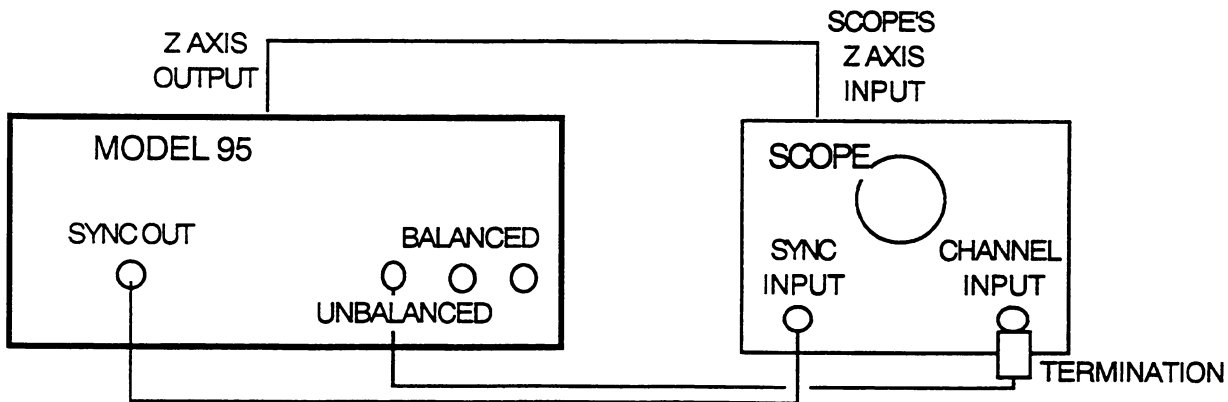
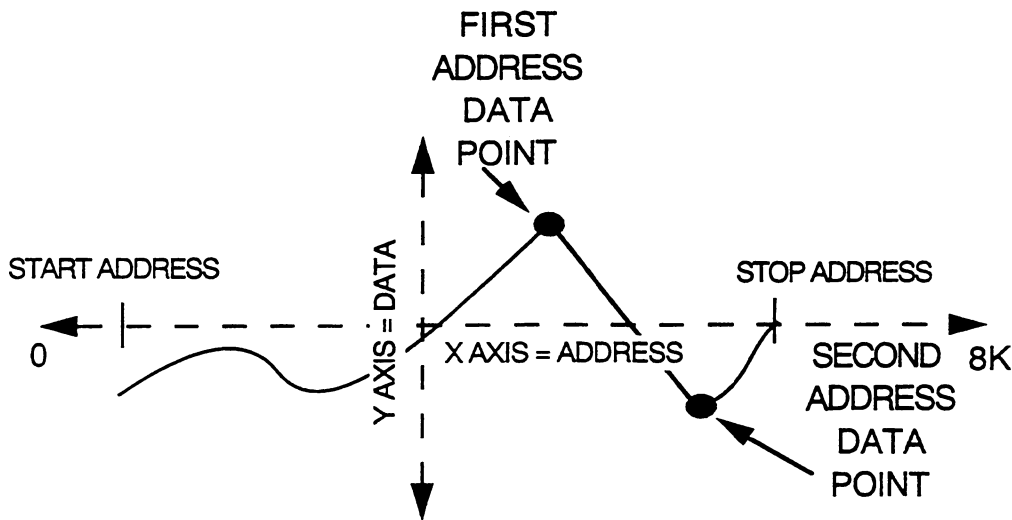

Figure 3-16. Arb Setup.
Figure 3-18. Line Edit
The best way to edit Arb waveforms requires an oscilloscope with a Z-Axis input. See figure 3-16.
Point edit technique defines waveforms by modifying a single point at a time. Only the point selected will be changed, other points are not affected. The easiest way to create or edit an Arb waveform is to connect the Model 95 to an oscilloscope; see figure 3-16.
After Power On (paragraph 3.5.2), use the following steps to set up Arb waveforms using the point edit method. First, connect the Model 95 and a Scope as illustrated in figure 3-16.
2. Instrument Setup. Connect the Model 95 and the Scope as illustrated in figure 3-16.
Line or two point edit method allows the user to develop waveforms by drawing a line between two points. The locations of the points are defined by addresses (X) and data (Y) entries. See figure 3-18 illustrates a line edit waveform. The horizontal line or X axis represents Arb addresses:0 to 8191 (32767 Option 002), and the vertical line or Y axis represents the Arb data (-2047 to +2047). The line edit method draws a line between the first address data point and the second address data point. The easiest way to create or edit an Arb waveform is to connect the Model 95 to an oscilloscope; see figure 3-16.
After Power On (paragraph 3.5.2), use the following steps to set up Arb waveforms with the Model 95 using the line edit method. First, connect the Model 95 and a Scope as illustrated in figure 3-16.